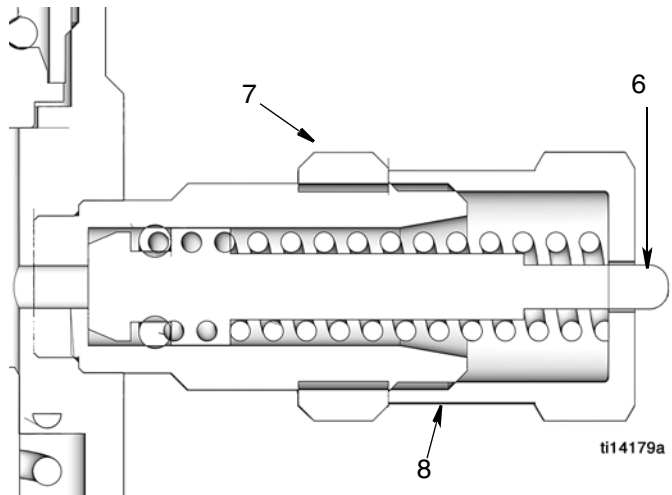

FIG. 1
Reference numbers refer to parts (FIG. 1 and page 4).
To prevent component failure, the adjustment nut (8) must not be extended beyond the fully retracted position of the piston (6). See FIG. 1.